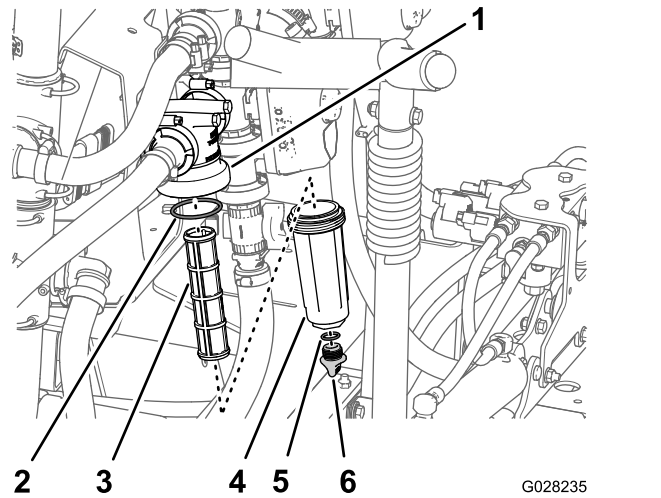

Figure 22
2. Align a drain pan under the pressure filter (Figure 22).
3. Rotate the drain cap counterclockwise and remove it from the bowl of the pressure filter (Figure 22).
4. Rotate the bowl counterclockwise and remove the filter head (Figure 22).
5. Remove the pressure filter element (Figure 22).
7. Check the gasket for the drain plug (located inside the bowl) and the gasket for bowl (located inside the filter head) for damage and wear (Figure 22).
8. Install the pressure filter element into the filter head (Figure 22).
9. Install the bowl onto the filter head, and tighten by hand (Figure 22).
10. Assemble the drain cap onto the fitting at the bottom of the bowl, and tighten the cap by hand (Figure 22).